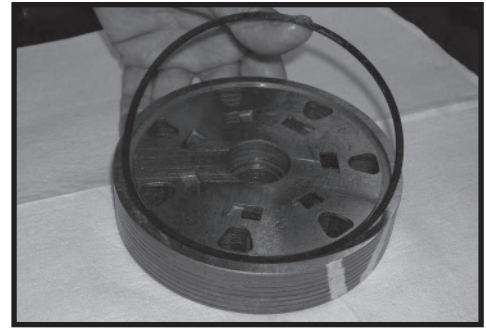

Figure 55
15. Apply clean grease to a **new** seal ring (4) and assemble it in the seal ring groove in the rotor set contact side of manifold (7). SEE FIGURE 55.
**NOTE: The manifold (7) is made up of several plates bonded together permanently to form an integral component. The manifold surface that must contact the rotor set has it's series of irregular shaped cavities on the largest circumference or circle around the inside diameter. The polished impression left on the manifold by the rotor set is another indication of which surface must contact the rotor set.**